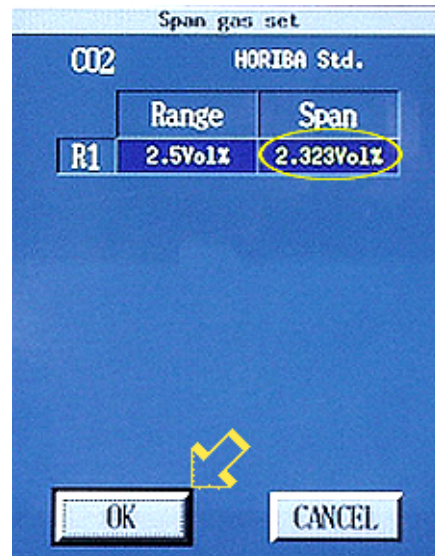

Figure 20
- 125 When the “Span gas set” menu appears, verify that the value in yellow under “Span.” is the same as the value noted in Step 121. See the circle in Figure 20. If it is not, notify a PNGV senior technician and wait for instructions before proceeding, otherwise click on “OK.” See the arrow in Figure 20.